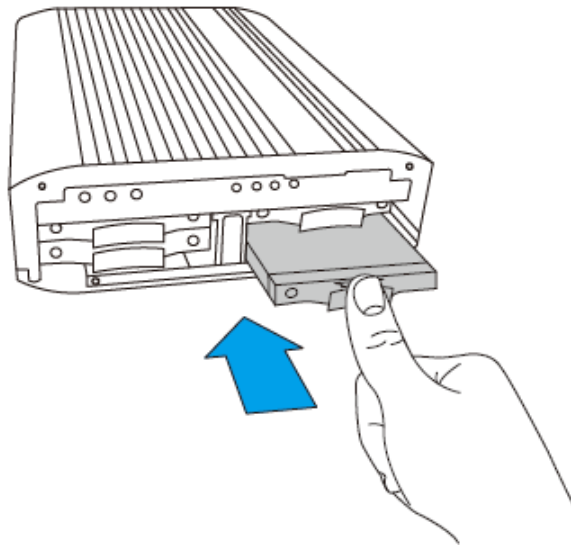

Figure 3-4: HDD Installation
Step 4: Insert the drive tray into the NAS all the way to the end (**Figure 3-4**).